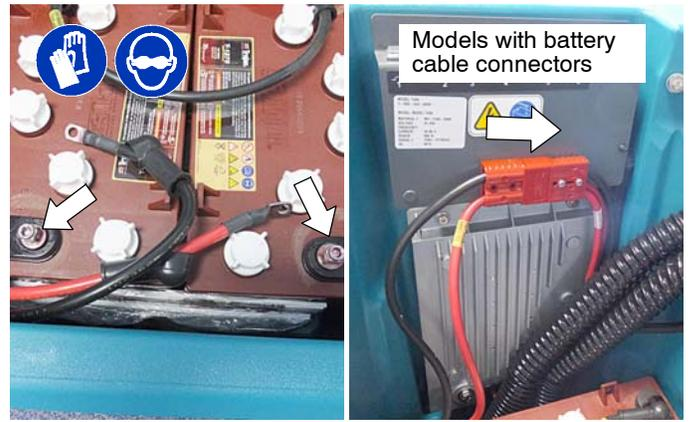

Fig. 20
7. Reconnect battery cables to battery pack (Figure 20).